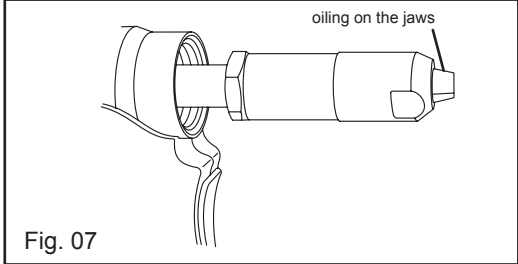

Fig. 07
1. Use an air line lubricator with SAE #10 oil, adjusted to two (2) drops per minute. If an air line lubricator cannot be used, add air motor oil to the inlet once a day.
2. Apply one drop of machine oil to the chuck jaws every 5,000 cycles (Fig. 07).
3. Unscrew the casing head with jaw spanner SW 24. Clean chuck jaws, chuck jaw seats and casing head. Lubricate the chuck jaws (Fig. 07). Assemble casing head in opposite sequence (do not overtighten casing head).